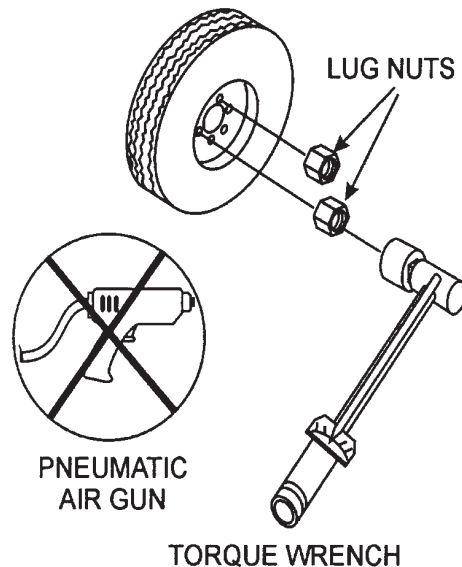

Figure 5. Wheel Lug Nuts Tightening Sequence
12. **Lug Nuts** - Used to secure the wheel to the wheel hub. Always use a torque wrench to tighten down the lug nuts. See Table 5 and Figure 5 for lug nut tightening and sequence.
2. Torque all lug nuts in sequence (see Figure 5). **DO NOT** torque the wheel lug nuts all the way down. Tighten each lug nut in 3 separate passes as defined by Table 5.